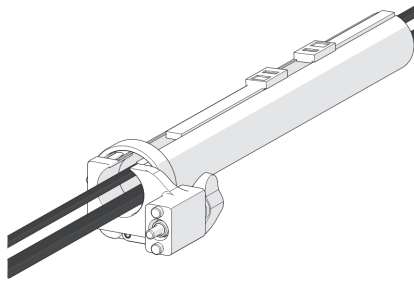

Figure 2-120 Zip opposite end
3. Once the cable is placed the entire length of tube, bring the zipper from the opposite end to meet at any point in the middle (see Figure 2-120 on page 124).